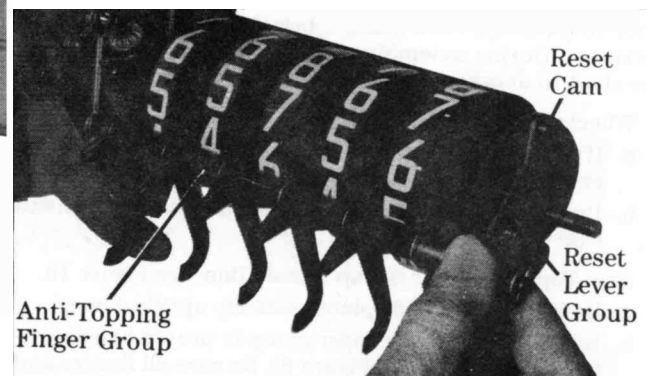

Figure 9. Anti-Topping Finger Group Removal.
- b. Disengage the anti-topping fingers and the clutch lever group from the wheels. See Figure 9.